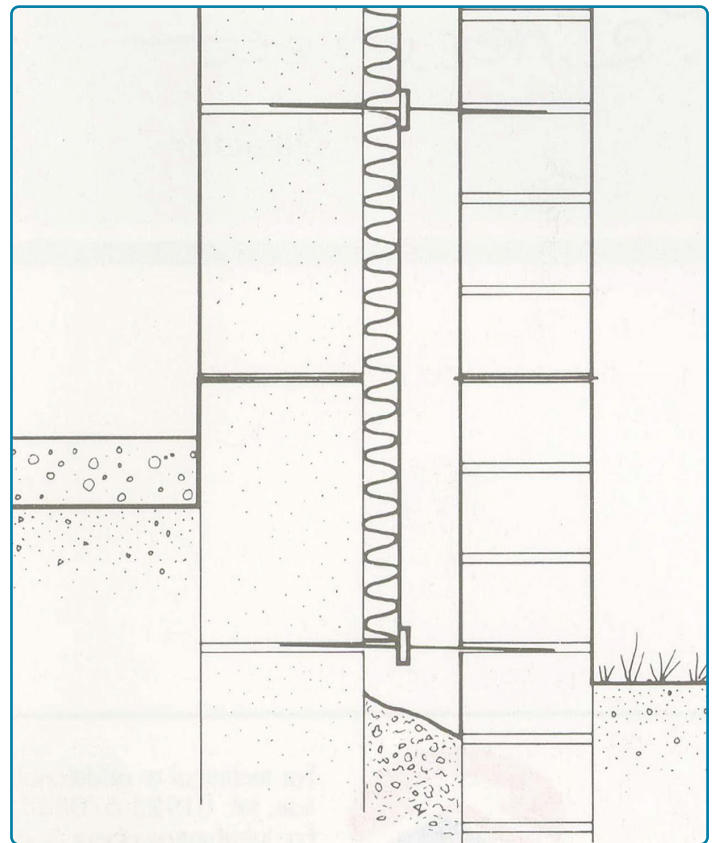

Figure 2
1.1.2 The Leading leaf is built up to a height of 450mm. Excess mortar is cleaned from the cavity face of the leading leaf, and the boards are placed on the wall ties behind retaining clips, to form a closely butt-jointed run. The second row of the wall ties is fitted to retain the tops of the board. It is essential that all wall ties slope downwards towards the outer leaf (see Figure 2). Horizontal spacing should be determined as follows